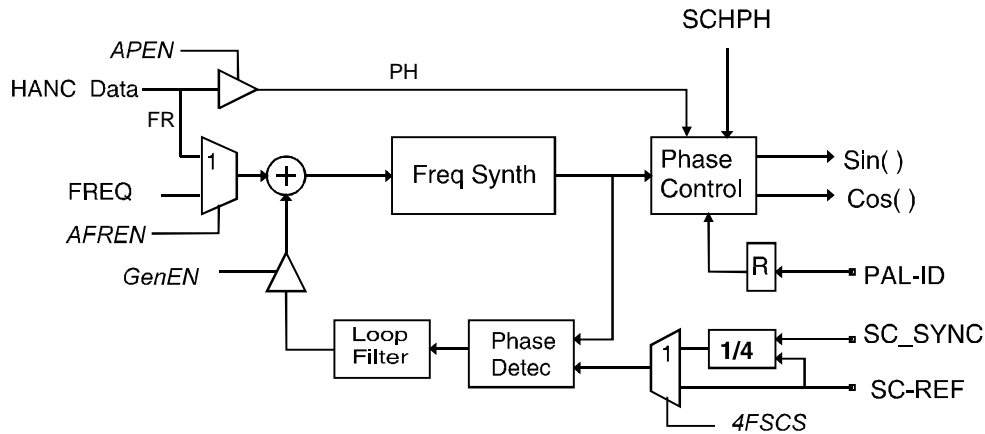

Figure 6. Fsc Synthesizer
The MPEG II system allows the 27 MHz clock frequency to vary to prevent the input buffer from overflow or underflow. When this happens the color subcarrier frequency will shift if the addend of numerical oscillator is not adjusted accordingly. If control register bit AFREN is '1' the subcarrier synthesizer will select the latched HANC's **subcarrier frequency** data (FR) as the addend instead of the programmable register (0x8-0xb) (Figure 6). The FR is latched if HANC datum FRV = '1', and the HANC control register's AFREN bit is set. The FR's value should be calculated using the equation
Figure 6 shows the chrominance frequency response for different bandwidth selections.